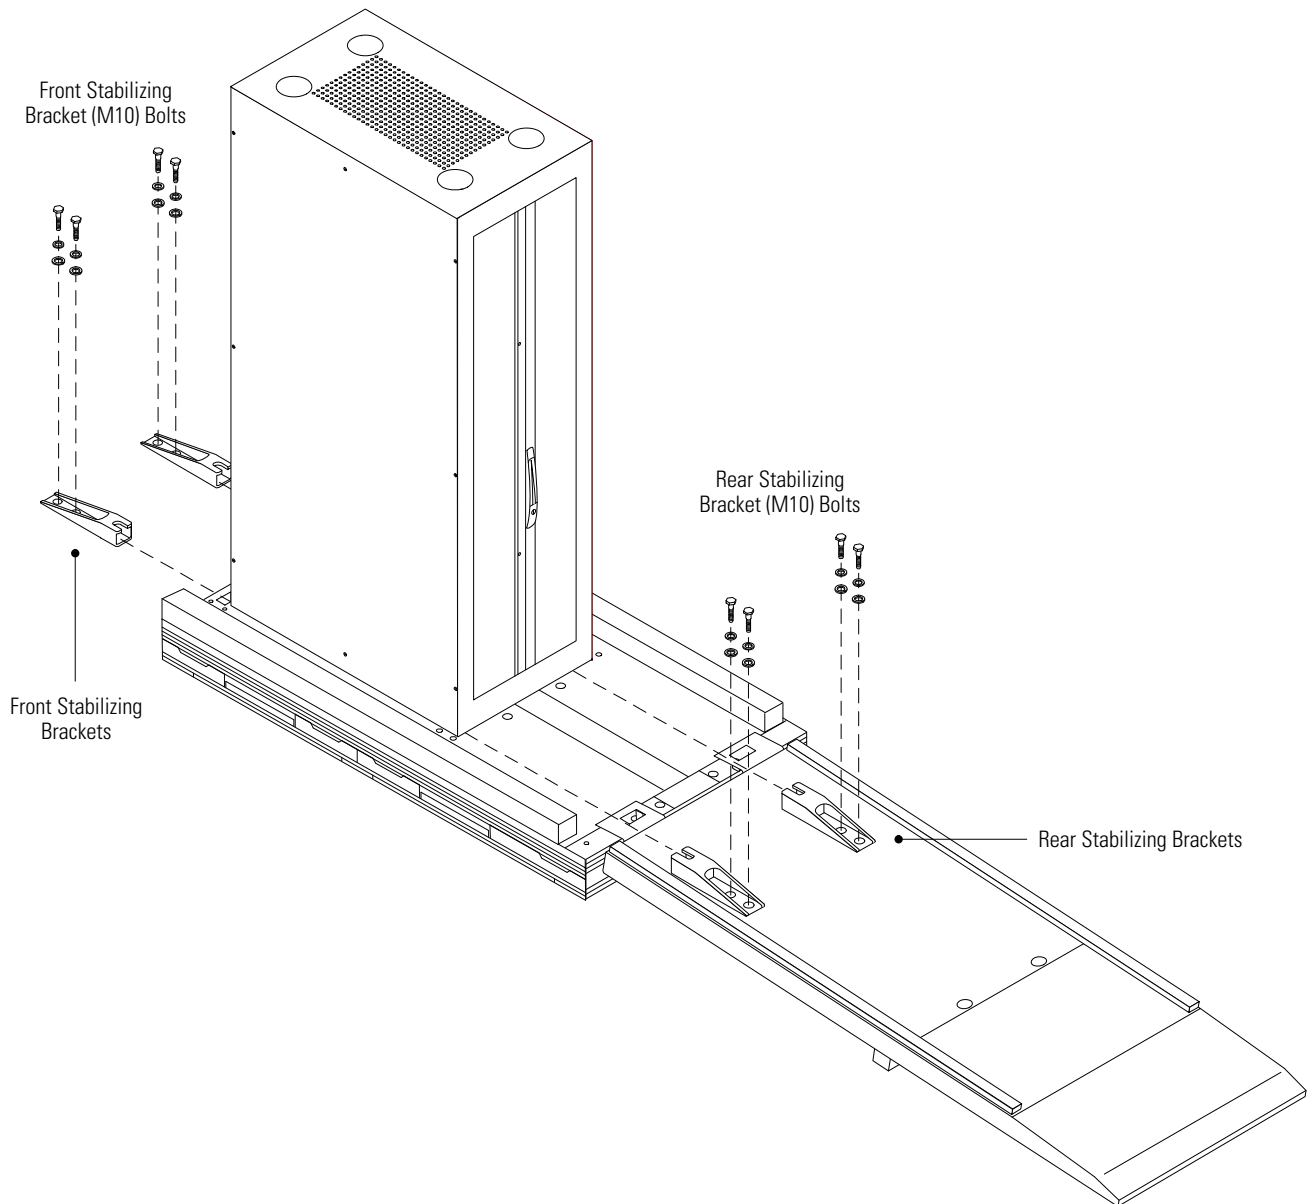

Figure 6. Removing the Stabilizing Brackets
1. Remove the M10 bolts securing the two front and two rear stabilizing brackets that secure the system to the pallet, and remove the brackets (see Figure 6).